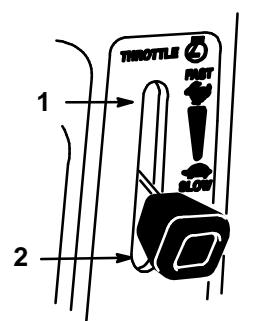

Figure 5
5. Move throttle lever to "FAST" (Fig. 5).
7. After the engine starts, move the choke lever to "OFF" and slowly move the throttle to the desired setting (Fig. 5). If the engine stalls or hesitates, move the choke lever back to "ON" for a few seconds. Then move the throttle lever to desired setting. Repeat this as required.
1. Move the throttle lever to “SLOW” (Fig. 5).